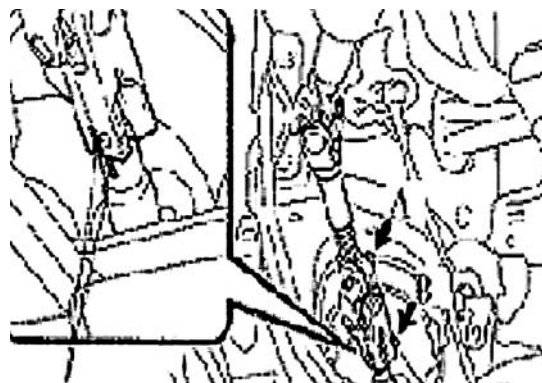

Figure 36
73. Connect steering shaft assembly and steering column hole cover. See (Figure 36)